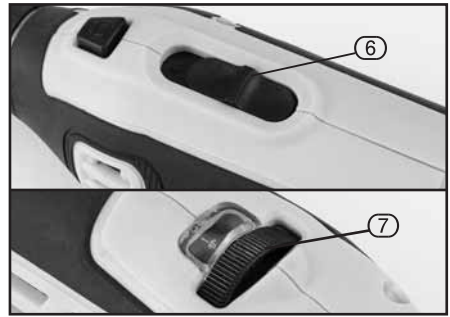

FIG.1
8.1 SWITCHING ON AND OFF - FIG. 1